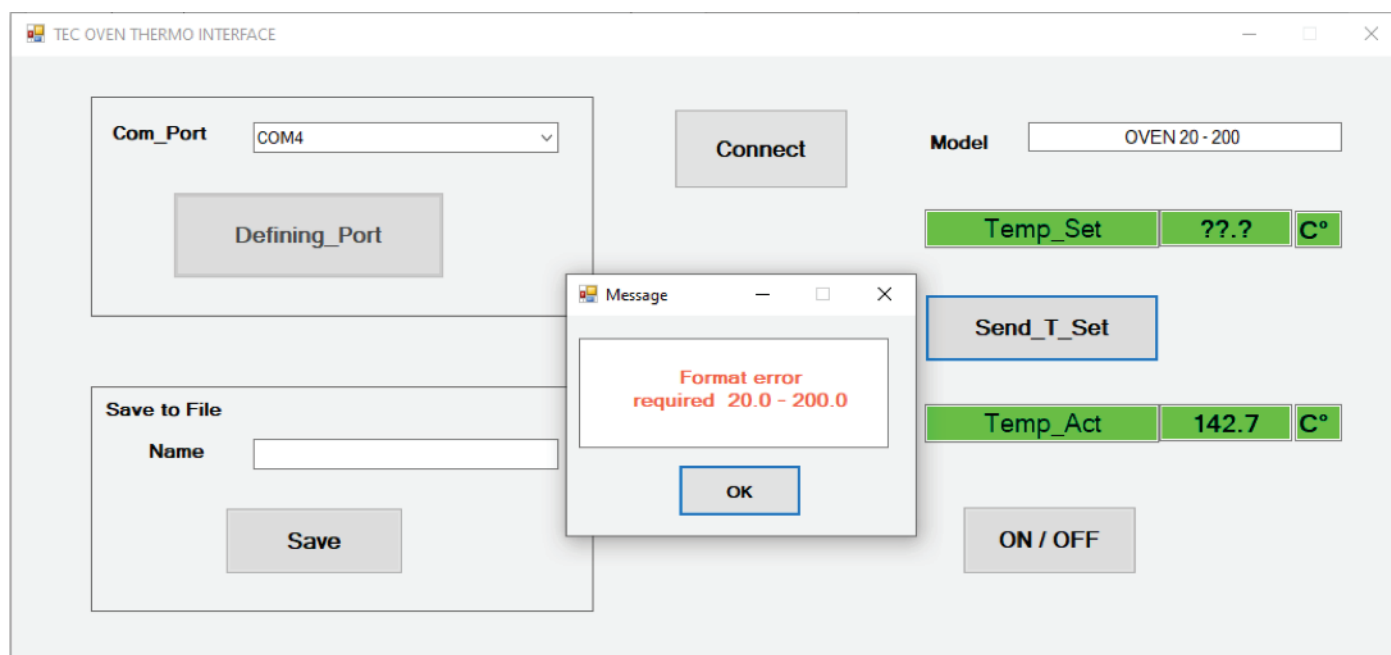

FIGURE 6. User Interface Software
- If the desire temperature format is incorrectly set , the message '**Format error. required 20.0 – 200.0**'appears. (figure 6)